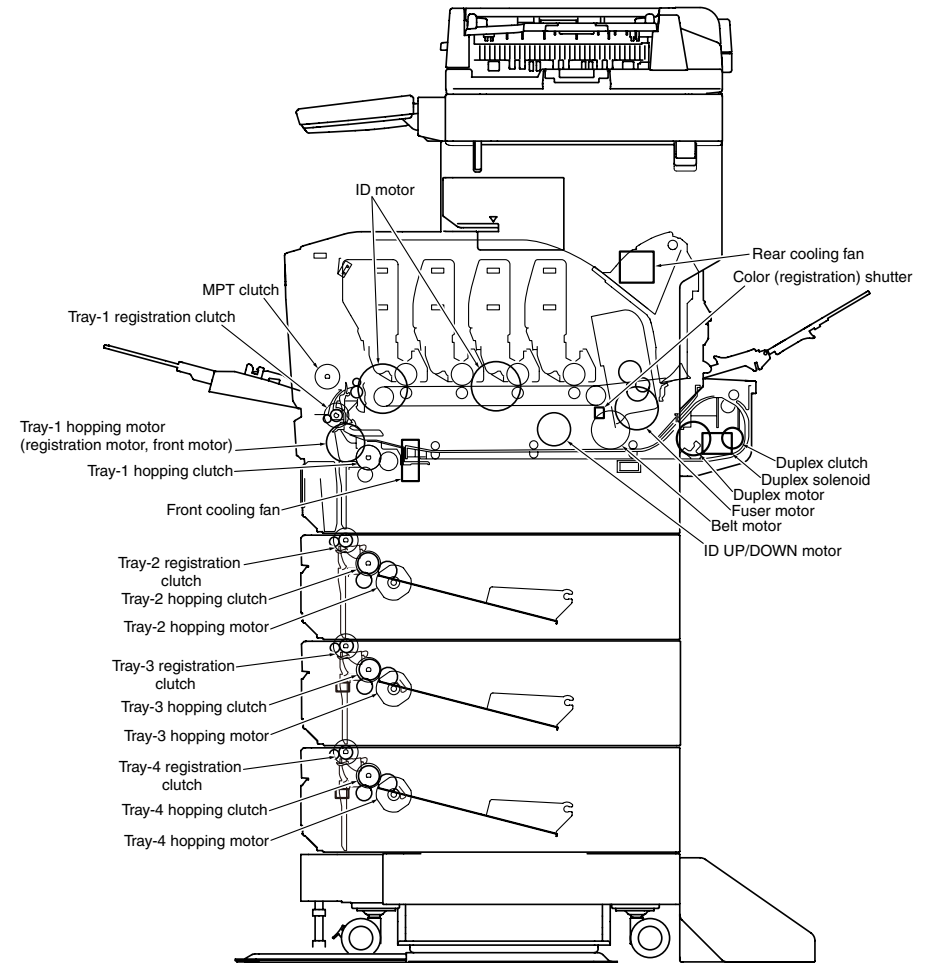

Figure 5-2
3. Pressing the [6] key starts the test. The unit name starts flashing and the corresponding unit is activated for 10 seconds. (Refer to Figure 5-2.)